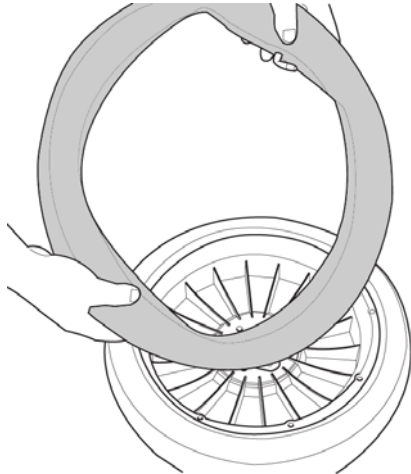

Figure 4-13: Inflate Tube Until Circular in Shape
3. Inflate tube with just enough air to give tube a circular shape (Figure 4-13).